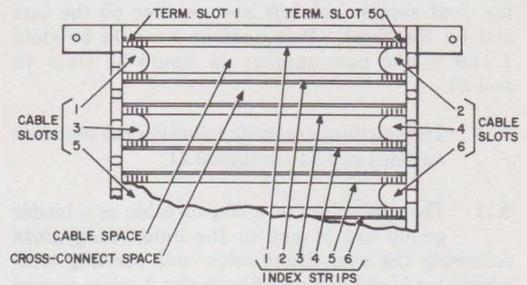

Fig. 12—Numbering Plan for 88-Type Wiring Block
3.06 Cable slots are numbered with the odd numbers on the left and the even numbers on the right, from top to bottom (Fig. 12). In the red field, only the odd number cable slots on the left side are used.